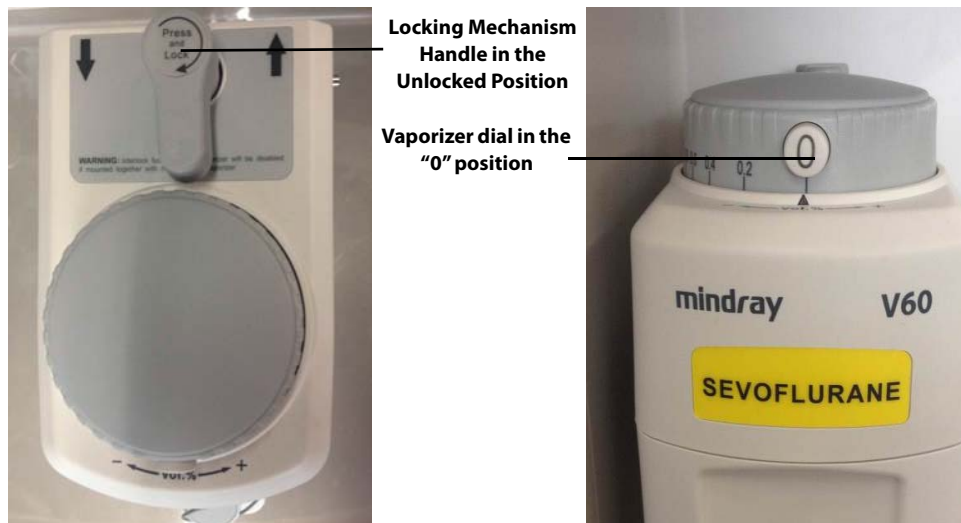

FIGURE 2-2 Vaporizer, Unlocked
2. Align the new vaporizer over the valve cartridges of the mounting bar, slightly tilting back the vaporizer. Hang the vaporizer on the mounting bar (see FIGURE 2-2). Ensure that the locking mechanism handle is in the unlocked position. Ensure that the dial is in the "0" (Transport) position or equivalent, depending upon the vaporizer manufacturer's Instructions For Use.